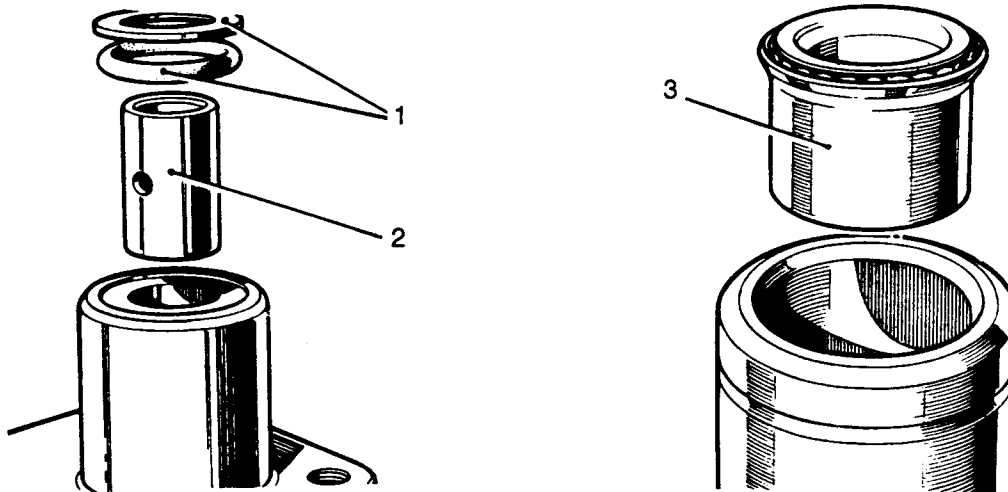

Fig L5.4
- (12) Refer to Fig L5.4. Remove the retaining washer and oil seal (1).
- (13) If required, press out the rocker shaft bush (2).
- (14) If required, remove the outer column top bearing (3).